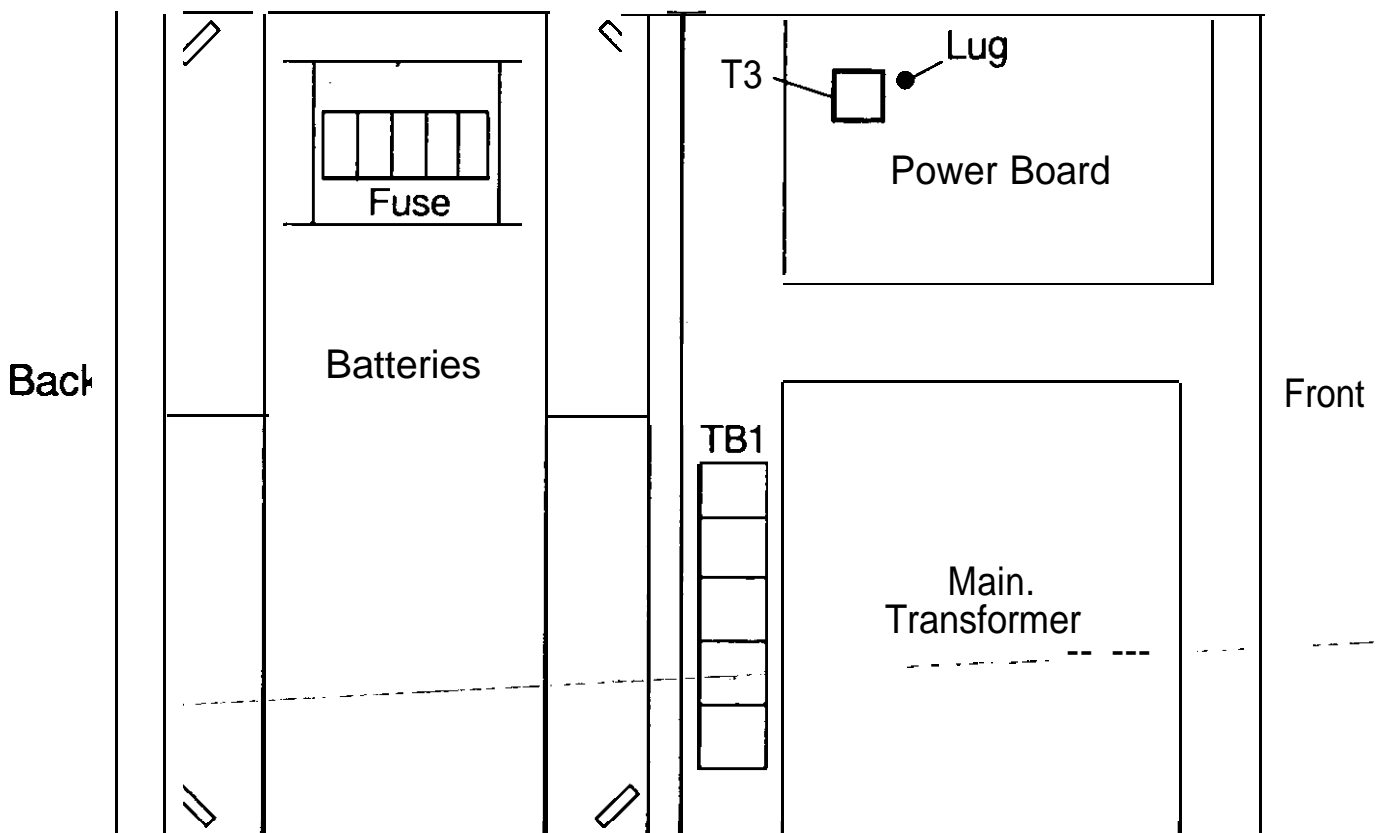

Figure 4-1
5. Disconnect the battery cable at the positive (+) battery terminal shown in Figure 4-1. Insulate the end of the cable with black electrical tape, and position it so it will not **con-**contact a battery terminal.
Refer to Figure 4-1 below. Find the power board in the unit, and then refer to Table 4-1 on the next page.